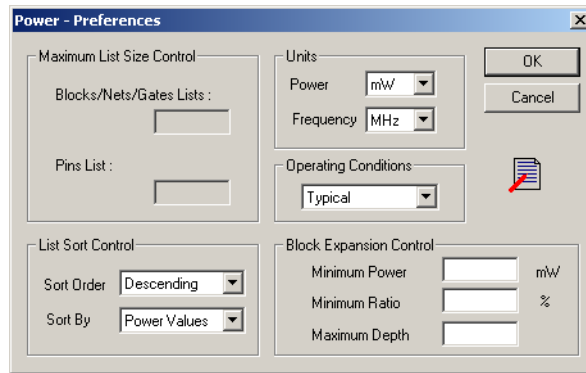

Figure 2-46. Power Preferences Dialog Box
3. For additional Power Report Options, click the **Options** to open the Power Preferences dialog box, as shown in Figure 2-46.